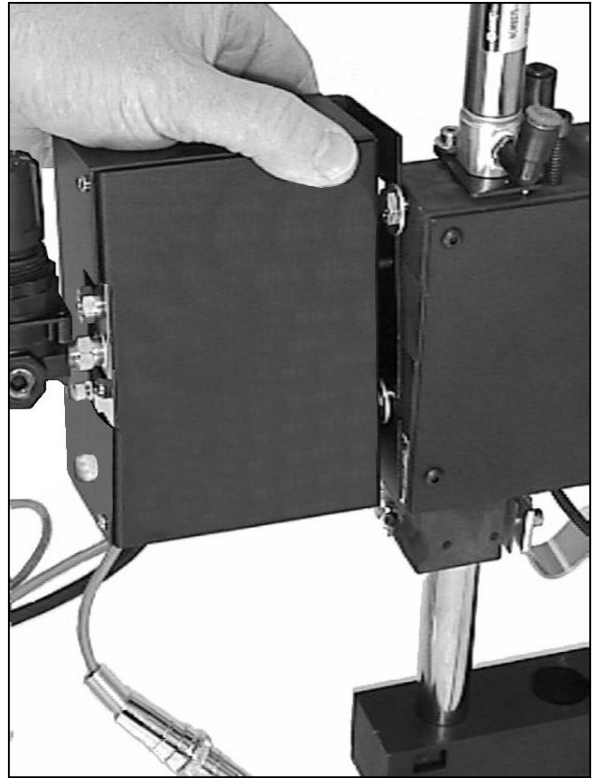

Figure 2-2. Installing EZ-Air directly on the TL-080B or TL-086B
3. Slide the EZ-Air onto the two screws (figure 2-2) and tighten the screws with the open-end wrench from the ship kit.